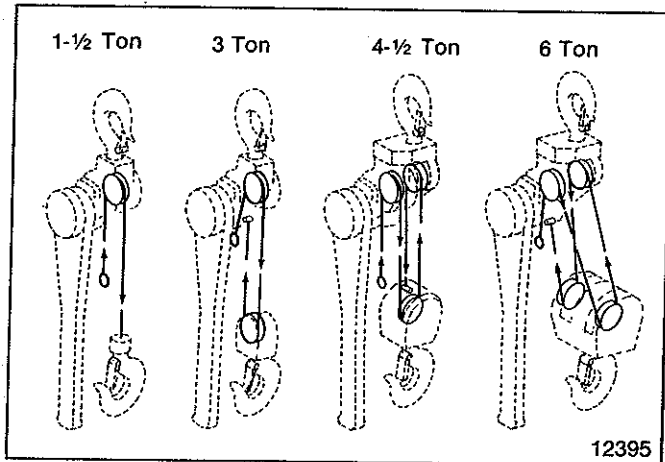

Figure 6-12. Reeving
b. For proper reeving, see Figure 6-12.